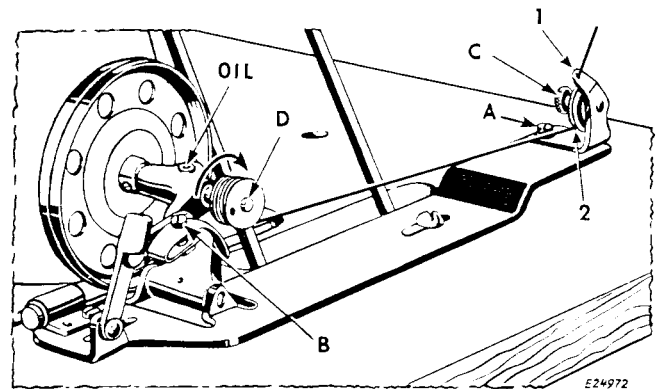

Fig. 7. Winding the Bobbin
Pass the thread down through the thread guide (1) in the tension bracket, around the back of and between the tension discs (2). Then wind the end of the thread around the bobbin a few times in the direction shown in Fig. 7, push the bobbin winder pulley over against the machine belt and start the machine.
When winding a bobbin with fine thread, a light tension should be used. Adjust the knurled nut **C**, Fig. 7 to regulate the tension.